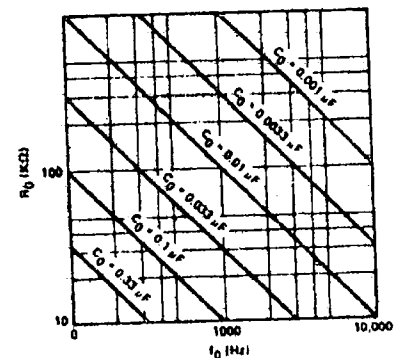

Figure 5: VCO Frequency vs Timing Capacitor.
- Step 3: Calculate C_0 from Figure 5: $C_0 = 0.044$ μ F